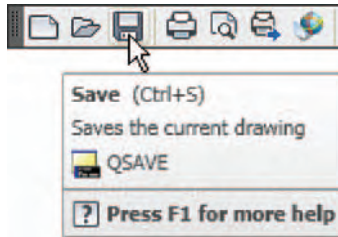

Fig. 1.28 Click Save
6. Click the **Save** icon in the **Standard Annotation** toolbar (Fig. 1.28). The **Save Drawing As** dialog appears. In the **Files of type** pop-up list select **AutoCAD Drawing Template (*.dwt)**. The templates already in AutoCAD are displayed in the dialog. Click on **acadiso.dwt**, followed by another *click* on the **Save** button.